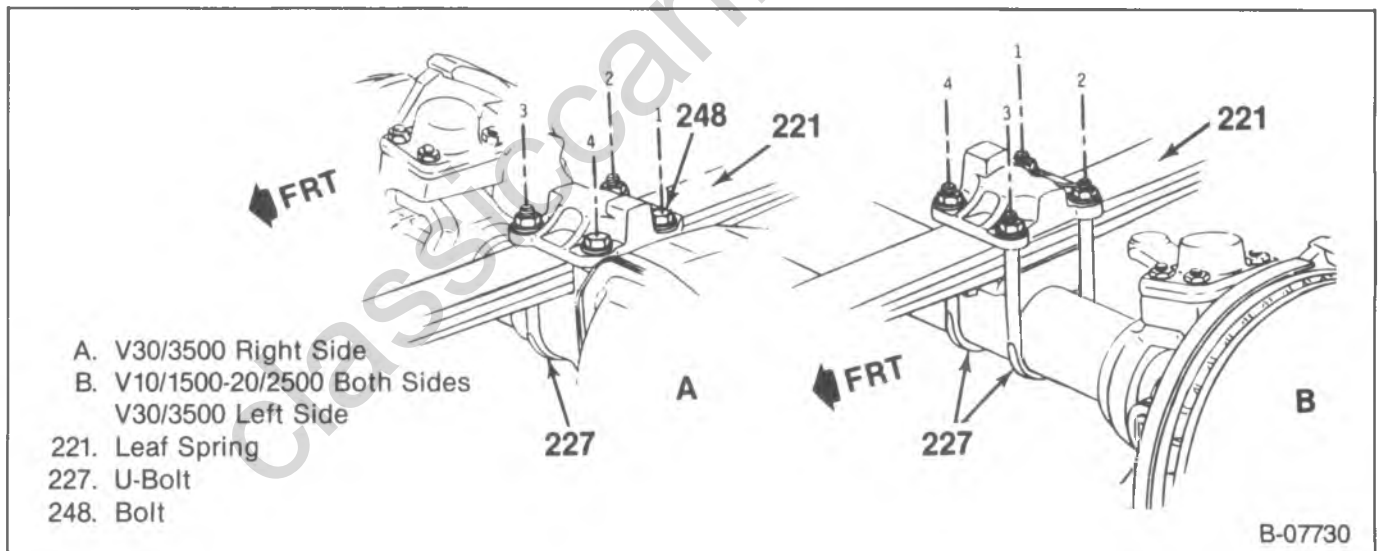

Figure 64—U-Bolt Tightening Order
- Nuts (222) and bolts (248) in sequence (2-4-1-3) to 203 N·m (150 ft. lbs.) (figure 64).
- Nuts (239) to 122 N·m (90 ft. lbs.).
- Nuts (218) to 68 N·m (50 ft. lbs.).